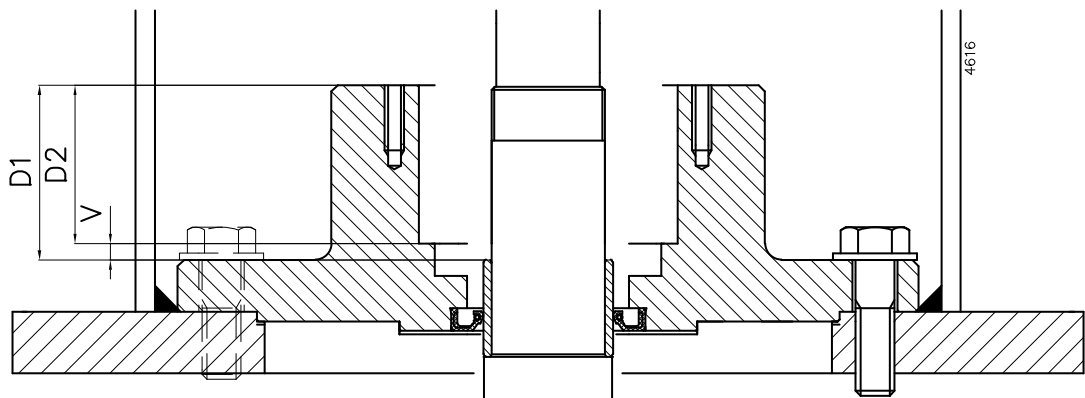

Figure 14: Determining the thickness of the shim rings.
- 3 See figure 14. Take a depth gauge and measure the distance **D1** from the top of the bearing house to the top of the inner ring and the distance **D2** from the top of the bearing house to the bottom of the ball bearing seat. Fill the difference **V** up with shimming rings (6050).